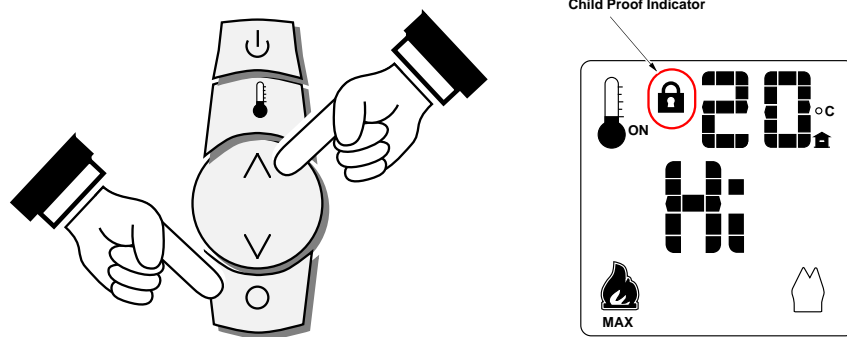

Figure 12
- Press both the MODE and UP buttons simultaneously to turn this feature on and off (see Figure 12 below).